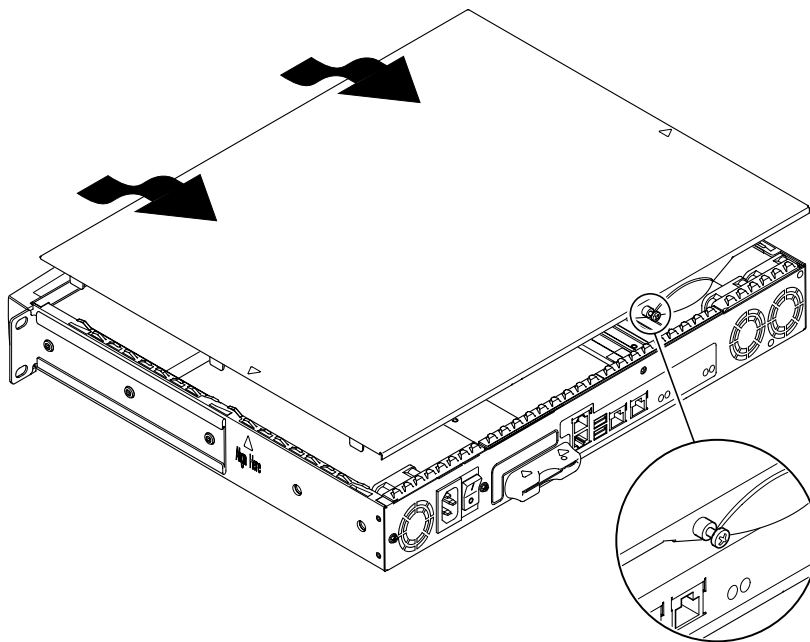

FIGURE 10-3 Removing the Top Cover
2. Unscrew the captive screw from the back of the unit (see FIGURE 10-3).